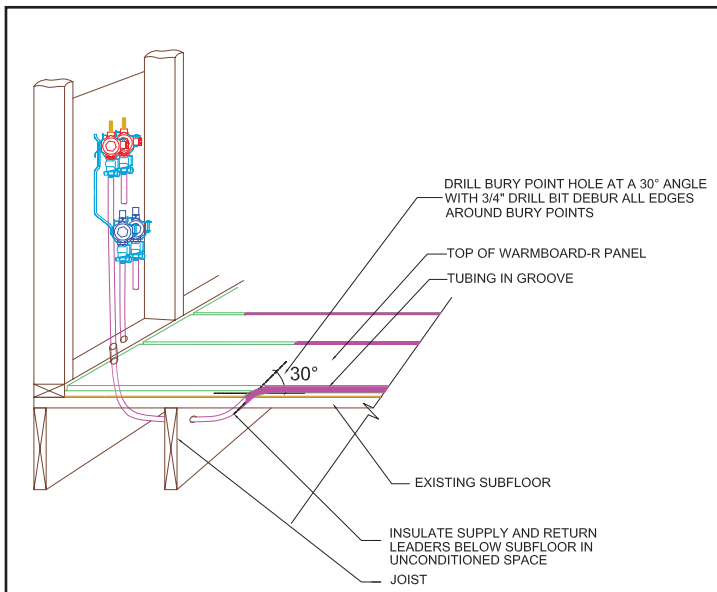

Figure 1.1 - Bury Point Example
- Method 3- uses the bury point, the tubing drops below the subfloor (see figure 1.1) to return the tubing back to the manifold location.